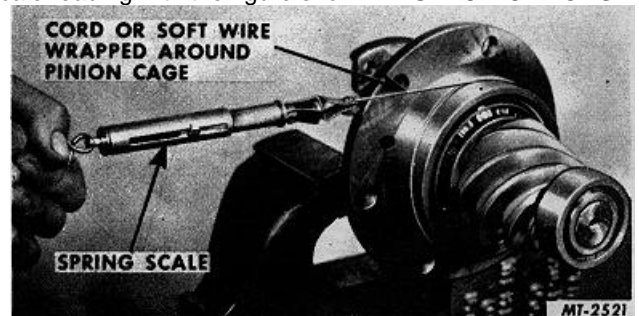

Fig. 11 Measuring Pinion Bearing Preload
10. To measure bearing preload, wrap a strong cord or soft wire about the pinion cage and attach end to spring scale (Fig. 11). Read scale only while cage is rotating. Compare this scale reading with the figure shown in "SPECIFICATIONS".
13. After pinion bearing preload is established good practice would be to check bearing roller ends to see whether they are in contact with bearing cone face. Use a feeler gauge ribbon. There must be no clearance at ends of rollers (Fig. 11).